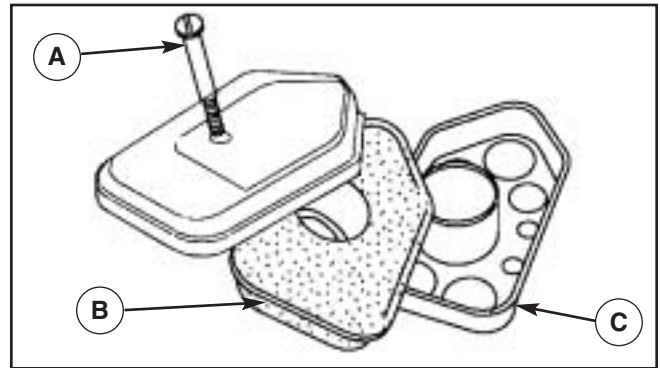

Figure 21: Air cleaner
1. Remove screw (A) (Figure 21).